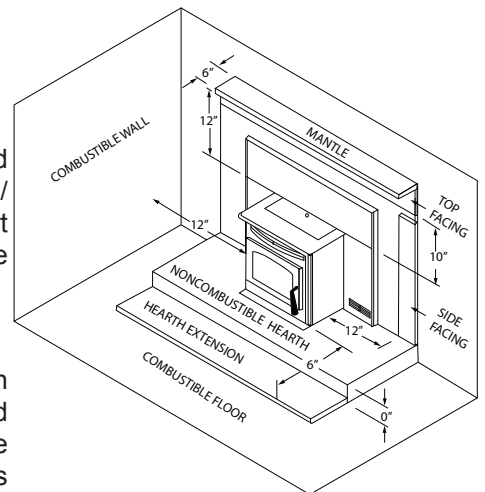

**FIGURE 1**
1. Position stove, adhering to clearances shown in Figures 1 & 2.
5. Position the stove, adhering to the clearances in Figures 1 & 2.
1. Position the stove, adhering to the clearances in Figures 1 & 2. Mark the center of the hole where the pipe is to pierce the masonry chimney.